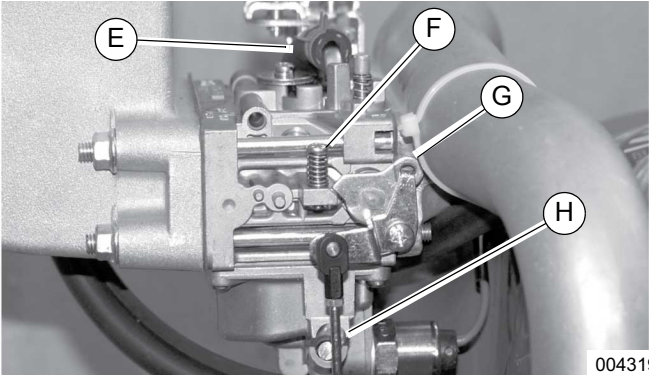

Figure 5-8. Adjust Idle Stop Screw
- 2. Slide new plenum gasket (C) and plenum (B) onto studs.
- 11. See Figure 5-8. Set throttle lever (G) to slow speed position and hold throttle lever against idle stop screw (F).